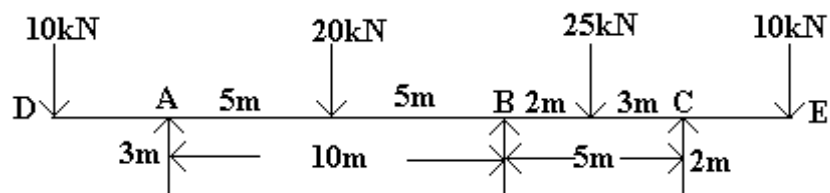

Figure 4:
8. Analyse the continuous beam loaded as shown in Figure 4 by the stiffness method, if there are overhangs on both sides. Sketch the B.M. and S.F. diagrams. [16]